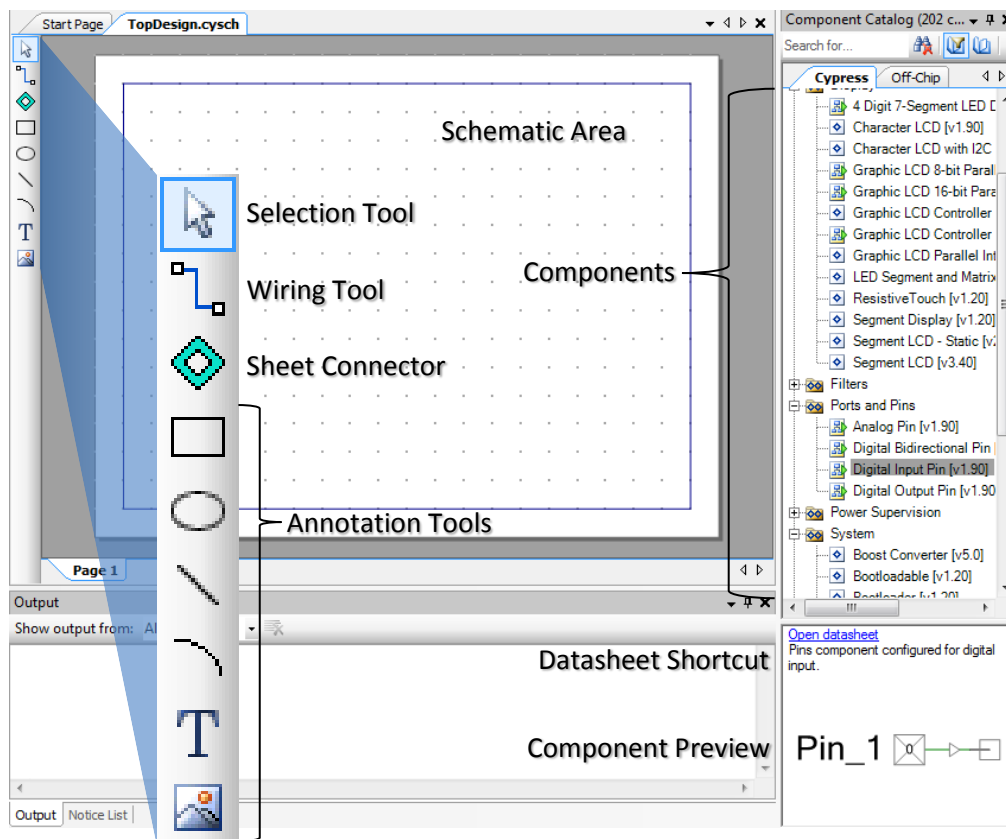

Figure 2: Schematic Editor
2. Take note of the main tools in the schematic view tab in Figure 2.